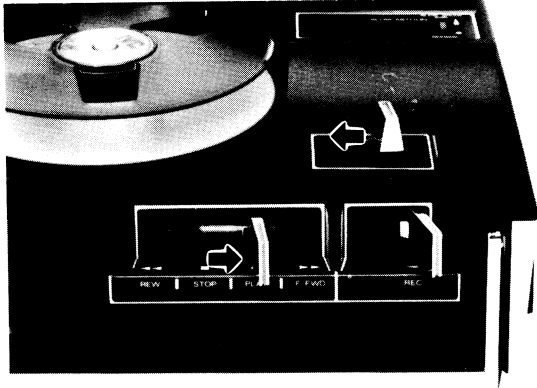

Fig. 1-29
- Set the CAMERA/TV switch to TV. Pull the Sound Dub lever in the direction indicated, then move the Function lever to PLAY, as shown in Fig. 1-29.